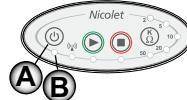

Figure 1
1. Press the **Power** button (**A** in Figure 1) for 3 - 5 seconds.